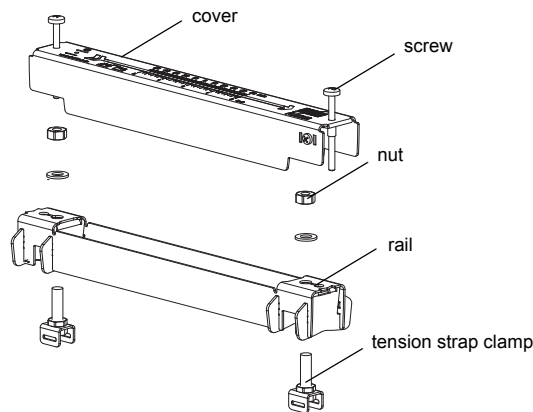

Fig. 9.6: Disassembly of Variofix L
- Disassemble the transducer mounting fixture Variofix L (see Fig. 9.6).